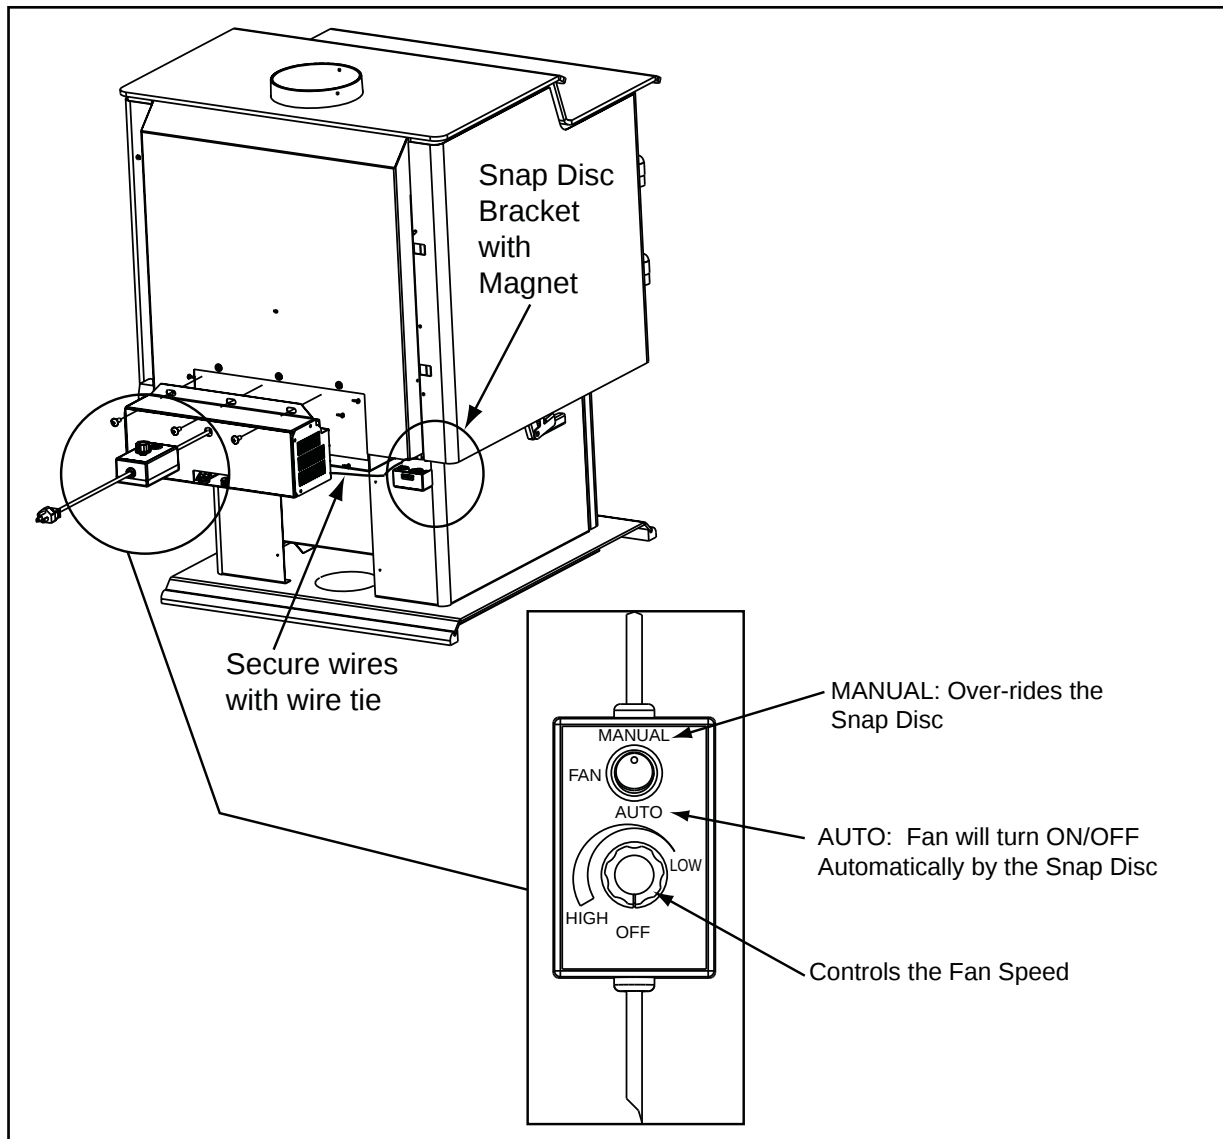

Figure 23.1
1. Align holes in mounting flange of blower with bolt holes in appliance. Blower should be positioned at bottom of rear outer skin as shown in **Figure 23.1**.
- 3 Place the bracket containing the snap disc and magnet under the bottom left rear corner as shown in **Figure 23.1**.